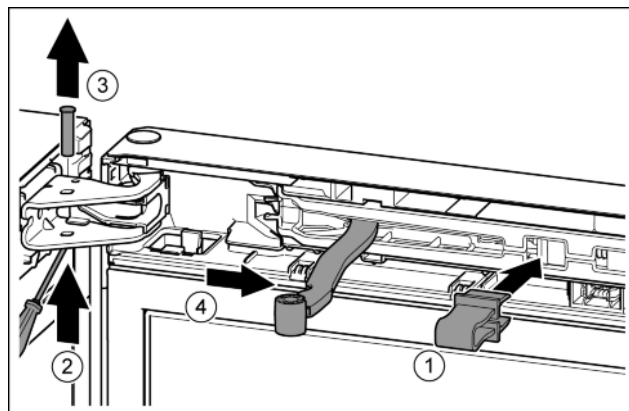

Fig. 8
- ▶ Engage the locking device in the opening. Fig. 8 (1)
- ▶ Unscrew the bolt with a screwdriver. Fig. 8 (2)
- ▶ Remove the bolt in an upward direction. Fig. 8 (3)
- ▶ Turn the hinge in the direction of the door. Fig. 8 (4)